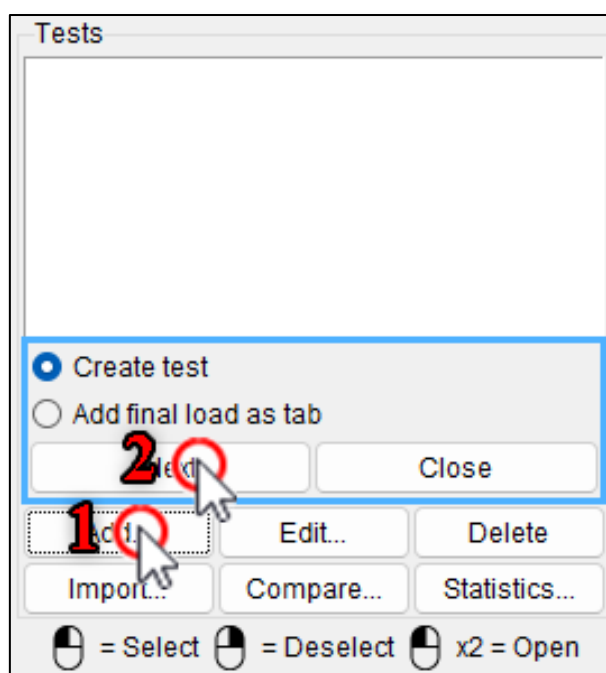

Figure 35
2. Click the “**Add...**” button in the side panels test module (Figure 35).
3. Click the “**Next**” button in the pop-up window (Figure 35).